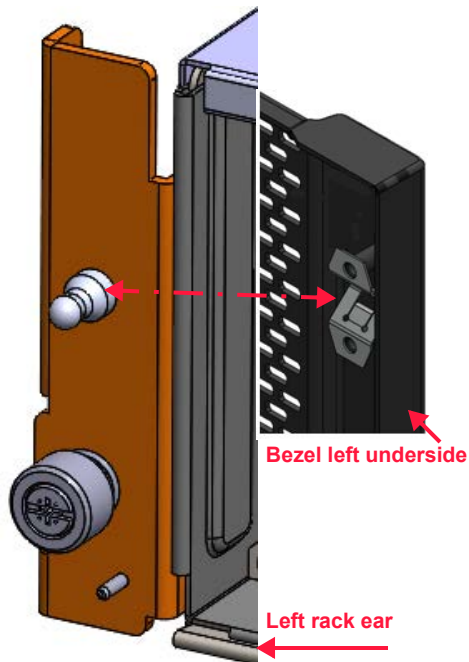

Figure 2.24 Bezel installation
2. Push the bezel into the right side of the right rack ear. The stud should join the retention clip inside the right side of the bezel cover (see Figure 2.24).
NOTE: Only the left side rack ear and bezel underside are shown in Figure 2.24. The right side is a mirror image of the left.